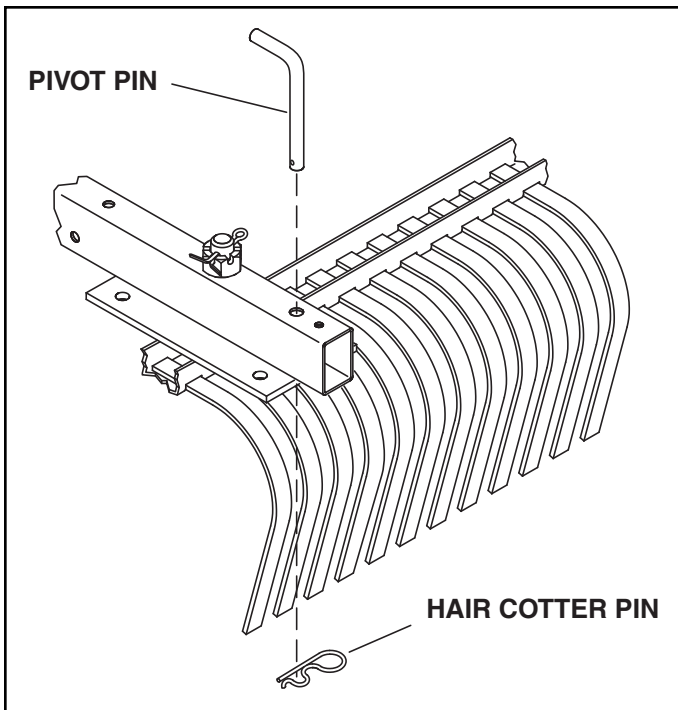

FIGURE 4
4. Lock the rake assembly in the straight ahead position by installing the pivot pin through the hole in the rear of the hitch assembly. Secure the pivot pin using the hair cotter pin. See figure 4.